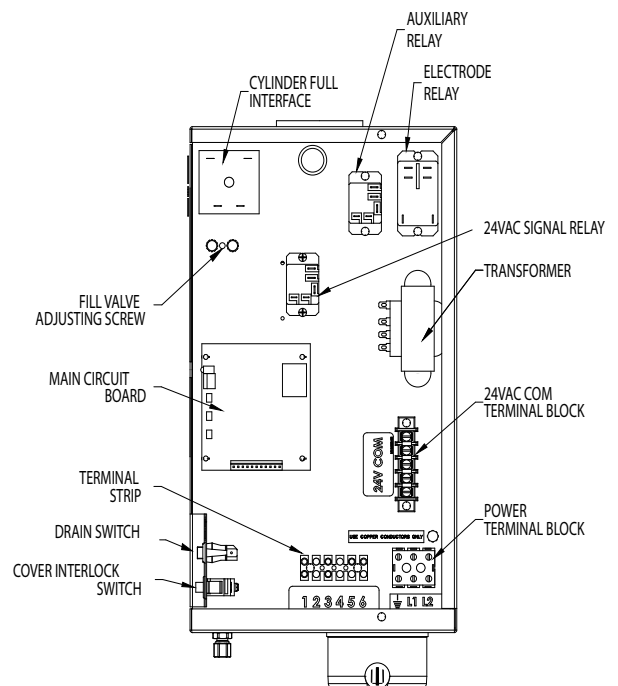
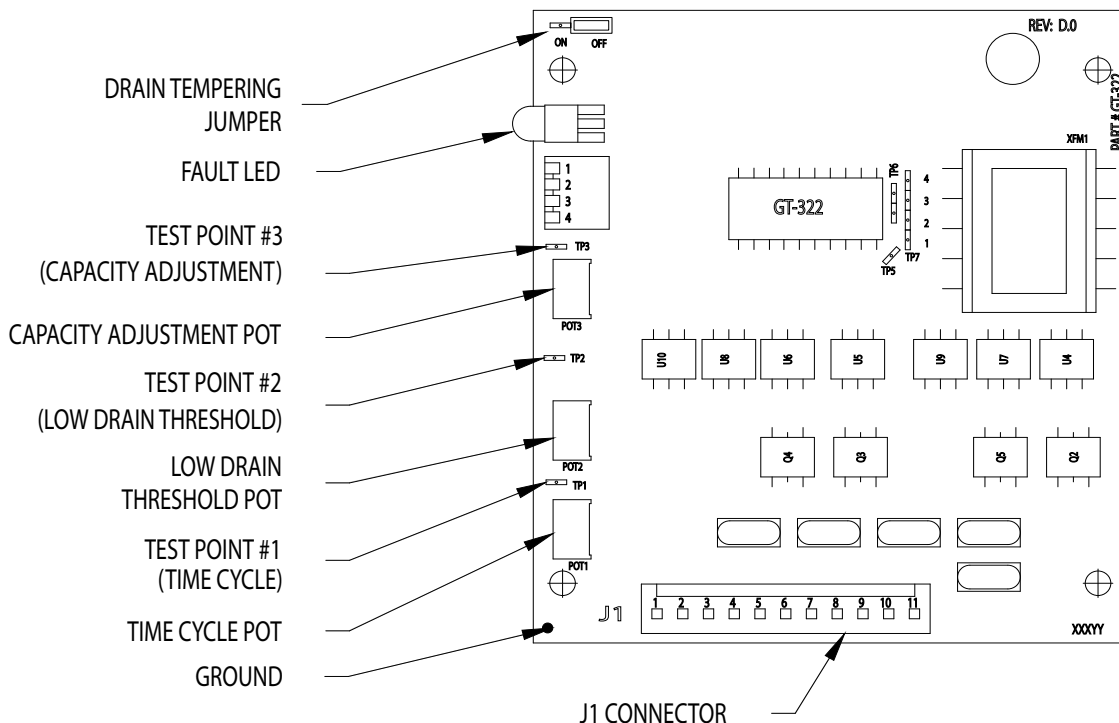

Figure 11 (View in from Right Side of Unit)
Figure 13
Often in residential control environments and some other control system designs, the humidifier is controlled independently and may not be interlocked with the air blower control system. In these cases, the humidifier is equipped with an auxiliary relay (as shown in Figure 11). The auxiliary relay has one set of normally open contacts that can be used to control the air blower system. Those same normally open auxiliary relay contacts close when the humidifier is powered on and generating steam.
10. All units are equipped with a drain tempering feature which mixes cold fill water with the hot drain water to protect drain piping. **Unit is factory set with drain tempering inactive. To activate, move drain tempering jumper to ON position from circuit board.** (See Figure 13.) Depending on your fill water pressure, some adjustment of the fill metering valve may be necessary to ensure drain water of less than 140°F. (See Figure 11.)
Each circuit board (see Figure 13) features three test points to aid in the troubleshooting process. Each of these test points works on a 0-5 VDC scale. "0 VDC" = 0%. "5 VDC" = 100%. All readings are between the test point and ground.
Check water supply. If it is softened, increase the Low Drain Threshold Pot (POT 2) up to XX%. (See Figure 13.)
Unit filling slower or at the same rate as the water is boiling, causing over concentration and foaming. Check restriction in fill line. Adjust the metering fill valve to allow greater flow of water. (See Figure 11.)
Observe the fill tee (GT-120). If water is going down the overflow and the water level is low: <ul style="list-style-type: none"> • Check to ensure that static pressure in the duct is not forcing water down the overflow instead of allowing water to enter the cylinder. • Adjust the fill metering valve to regulate the water flow to the cylinder. (See Figure 11.) • Unit filling slower or at the same rate as it is boiling off, causing over concentration and foaming. Fill rate must be increased. Open metering valve. • If the fill valve is already fully open, get a water analysis and consult the factory.